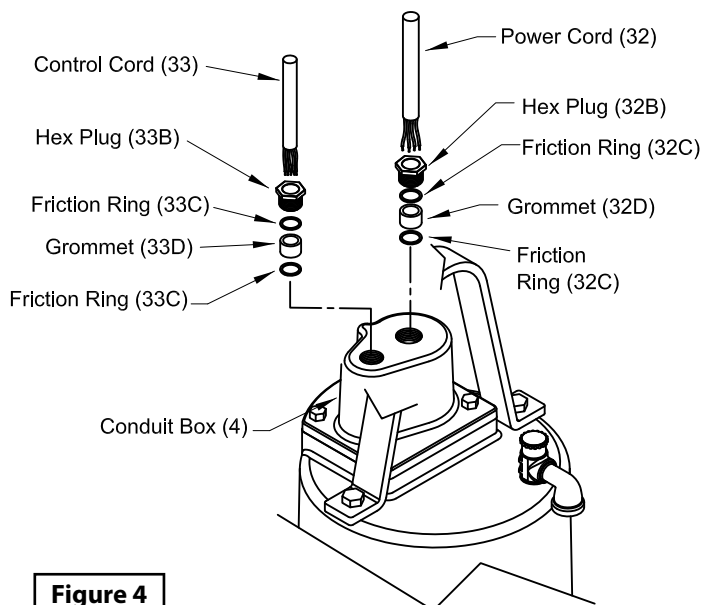

Figure 4
Conduit Box Assembly - Check power (32) and control cables (33) for cracks or damage and replace complete conduit box (4) if required. (See Figure 4) Bring motor wires through opening in top of motor housing (3), check sleeving and replace if damaged. Position square ring (5) in conduit box (4) and reconnect leads using connectors and insulators. See Figures 5, for wiring schematics.
Remove gland nuts (32B) and (33B), friction rings (32C) and (33C), and grommets (32D) and (33D) from conduit box (4), inspect and replace if damaged (See Figure 4). Reassemble by inserting one friction ring, grommet, one more friction ring and gland nut into conduit box. Torque gland nuts to 15 ft/lbs to prevent leakage.